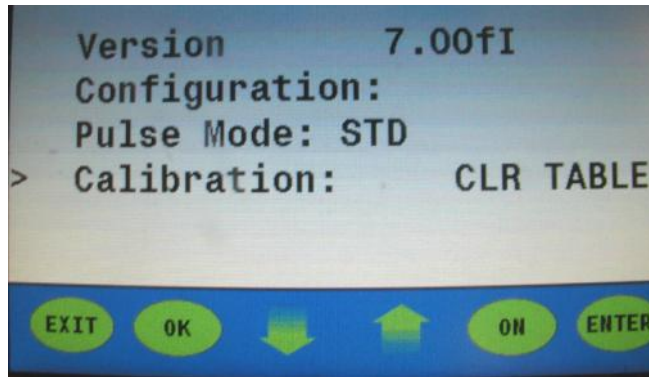

Figure 6
14. Press the up or down arrow to select “CLR TABLE”. **(Figure 6)**